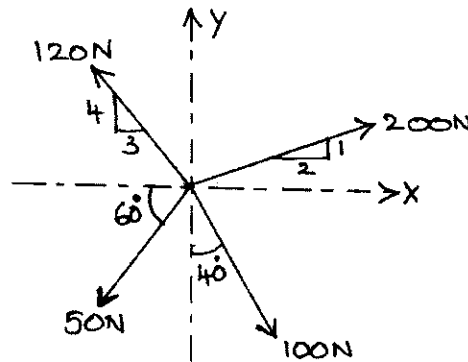

Fig. Q8 (c)
- c. A system of four forces acting at a point on a body is as shown in Fig. Q8 (c). Determine the resultant. (12 Marks)